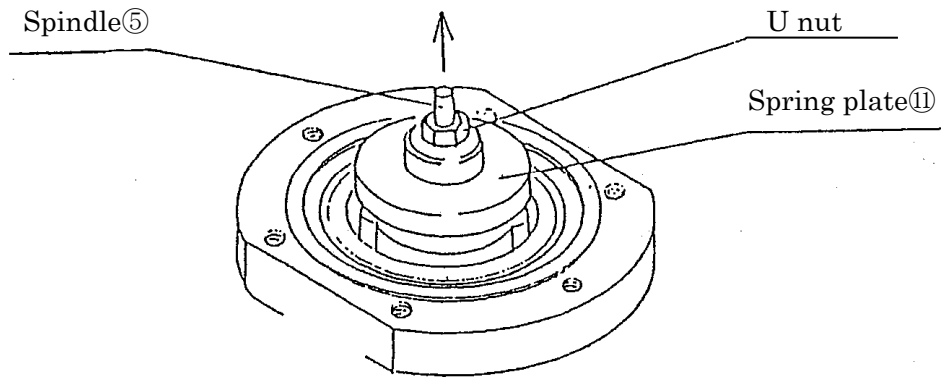

Fig.4
- (1) Release the internal pressure completely, and make sure of zero pressure.
- (2) Slightly loosen the lock nut⑭ and turn the adjusting screw⑬ counter clockwise to relieve the adjusting spring⑫ (Unload the spring).
- (3) Remove the hexagon bolt from the spring chamber②, then remove the spring chamber, and take out the adjusting spring and the spring plate⑩.
- (4) To remove the diaphragm⑨, fix the spindle⑤ and remove the U nut.
- (5) To remove the retainer⑥, loosen and remove the retainer guide clamping bolt and pull the retainer guide⑧.
- (6) To remove the valve seat③, pull the spindle. Remove it by the bellow method (Fig.4, Fig.5) when it is difficult to remove the retainer guide.
To remove the retainer guide⑧ easily, install the spring plate⑪ and U nut to spindle⑤ again and pull the spring plate. (Fig.4)